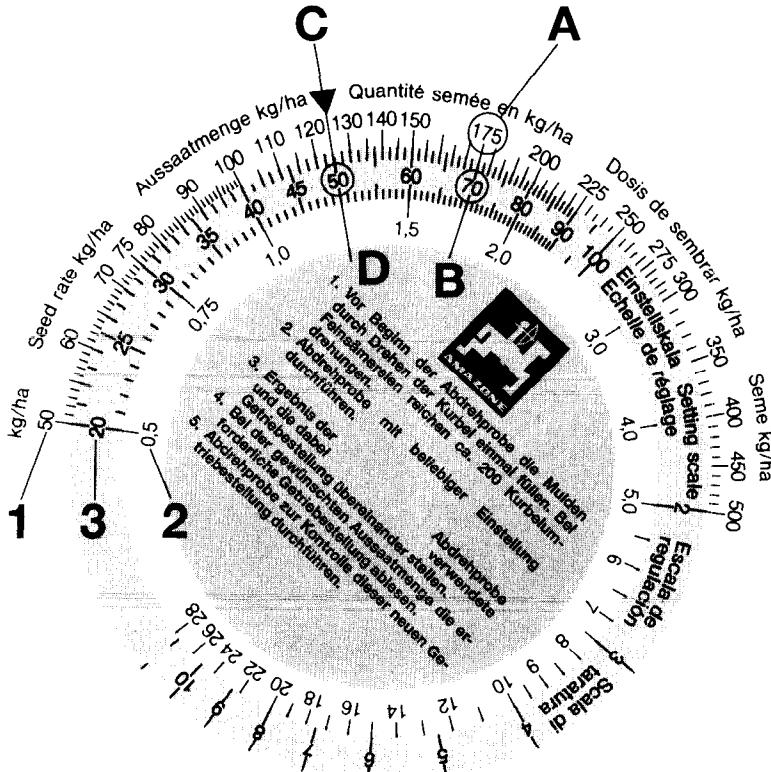

Fig. 3
3. Determination of the gearbox scale setting No. with the aid of the seed rate calculation disc rule (Fig. 3)
If the first calibration test does not bring the desired seed rate, the new gearbox scale lever setting for the correct seed rate can simply be determined by the enclosed seed rate calculation disc rules (Fig. 3). This disc rule consists of 3 scales: One outer white scale (Fig. 3/1) for all seed rates above 30 kg/ha and an inner white scale (Fig. 3/2) for all seed rates below 30 kg/ha. On the middle coloured scale (Fig. 3/3) the gearbox lever scale setting No.'s from 1 to 100 are indicated:
- Now turn the inner disc until the obtained seed rate of "175 kg/ha" (Fig. 3/A) is in line with the related actual gearbox lever setting No. of "70" (Fig. 3/B).
- Now read off the disc rule the necessary gear box lever setting No. for the required seed rate of 125 kg/ha (Fig. 3/C). In our example the correct setting No. is "50" (Fig. 3/D).